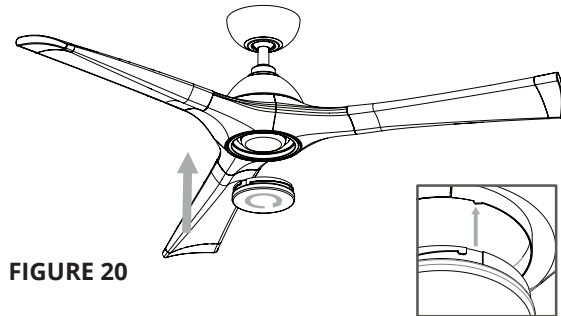

FIGURE 20
2. Secure the LED module with the 3 screws to the mounting plate (Fig. 20).